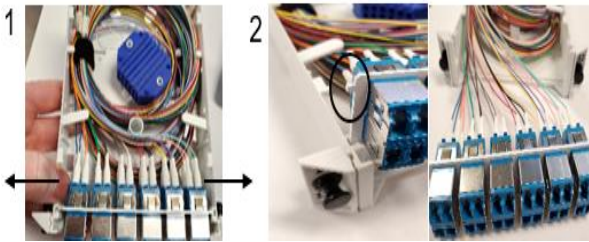

Figure 5
5.3 Each Fox Cassette faceplate is easily removed in two steps. **See Figure 5.**